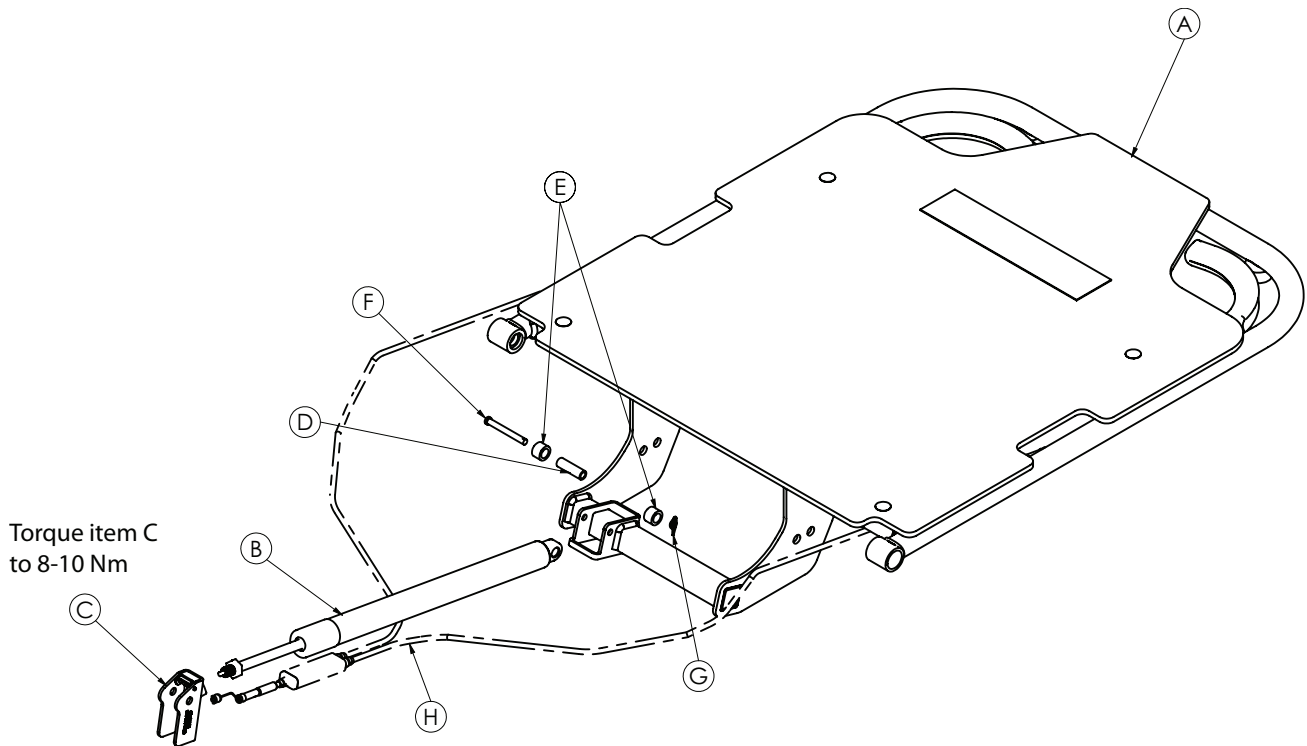

Figure 18 – Fowler gas cylinder replacement
5. Use needle nose pliers to remove the rue ring cotter (G) and clevis pin (F) that secure the cylinder (B) to the Fowler backrest frame (Figure 18).